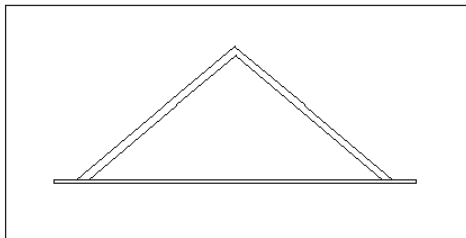

Figure 4-7: Part of a portico over a window, drawn using relative Cartesian and polar coordinates in architectural notation
5. Save your drawing. You have created a portion of a portico, which goes over a window of a house, as shown in Figure 4-7.